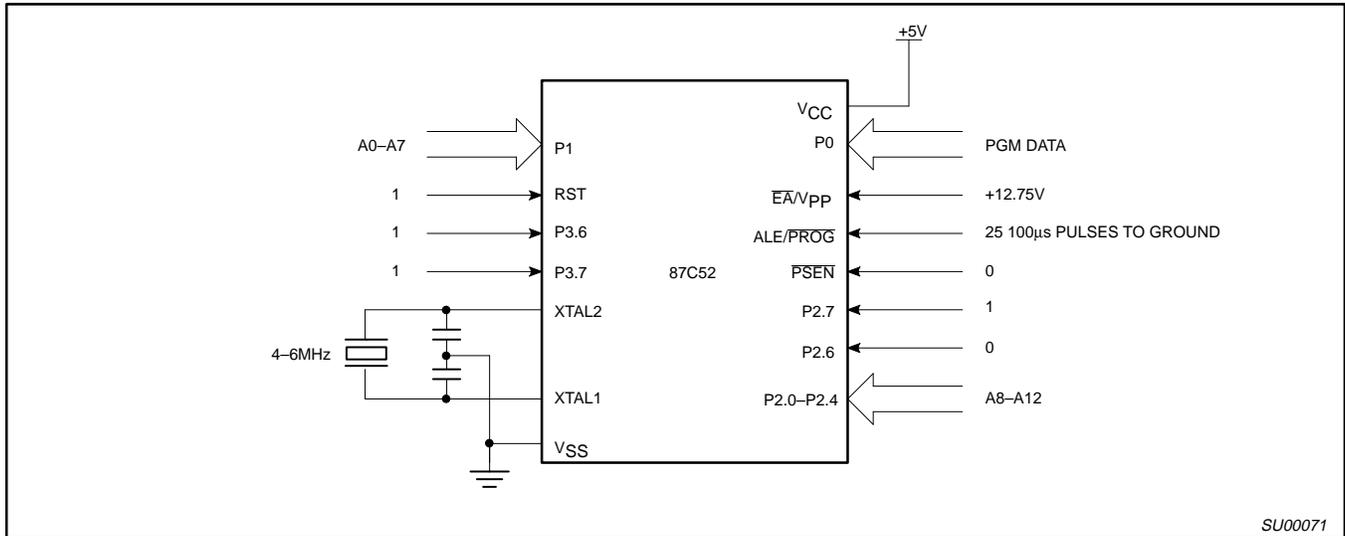
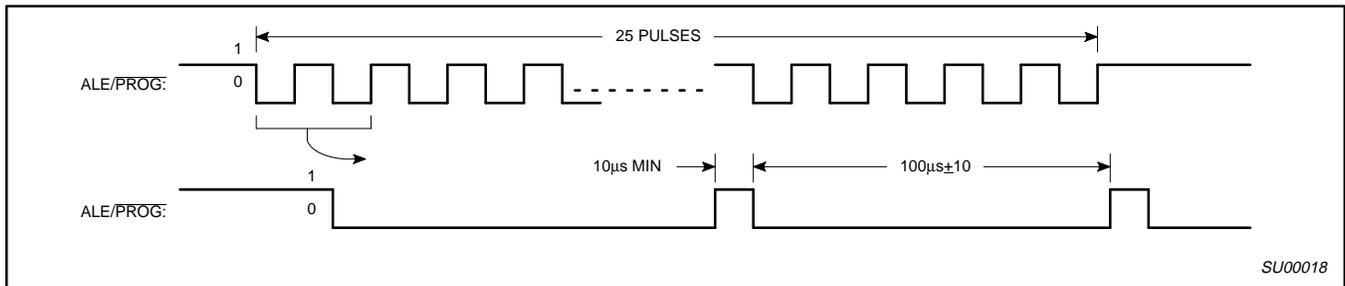
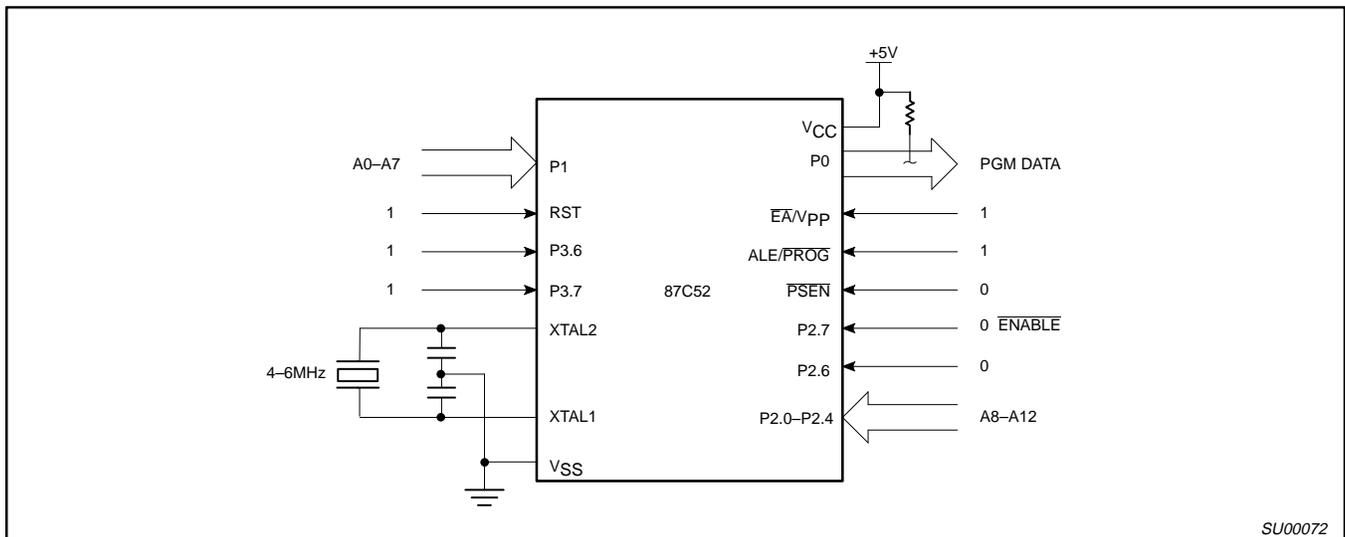

Figure 17. Programming Configuration
Figure 18. PROG Waveform
Figure 19. Program Verification
Table 6 shows the logic levels for reading the signature byte, and for programming the program memory, the encryption table, and the security bits. The circuit configuration and waveforms for quick-pulse programming are shown in Figures 17 and 18. Figure 19 shows the circuit configuration for normal program memory verification.
The setup for microcontroller quick-pulse programming is shown in Figure 17. Note that the 87C52 is running with a 4 to 6MHz oscillator. The reason the oscillator needs to be running is that the device is executing internal address and program data transfers.
The address of the EPROM location to be programmed is applied to ports 1 and 2, as shown in Figure 17. The code byte to be programmed into that location is applied to port 0. RST, \overline{PSEN} and pins of ports 2 and 3 specified in Table 6 are held at the 'Program Code Data' levels indicated in Table 6. The ALE/PROG is pulsed low 25 times as shown in Figure 18.
If security bit 2 has not been programmed, the on-chip program memory can be read out for program verification. The address of the program memory locations to be read is applied to ports 1 and 2 as shown in Figure 19. The other pins are held at the 'Verify Code Data' levels indicated in Table 6. The contents of the address location will be emitted on port 0. External pull-ups are required on port 0 for this operation.
* FOR PROGRAMMING VERIFICATION SEE FIGURE 17.
FOR VERIFICATION CONDITIONS SEE FIGURE 19.